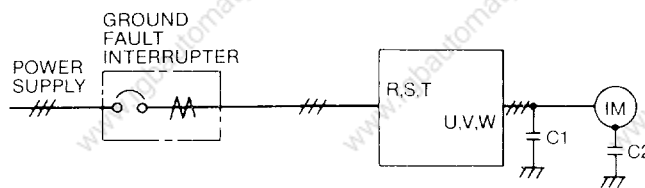

Fig. 4.6 Installation of Ground Fault Interrupter
(9) When applying a ground fault interrupter or relay, it should have good balance characteristics and be connected on the power supply side as shown in Fig. 4.6. Since the output from the VS-626MTIII controller contains higher-level harmonic components, a zero-phase current flows through the stray capacitor (C1) of the cable between VS-626MTIII controller and motor or through the stray capacitor (C2) of the motor, sometimes resulting in erroneous operation of the ground fault interrupter. Because of this, they must be installed in accordance with the following: